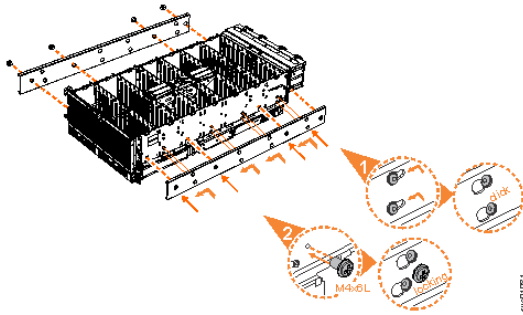

Figure 46. Attaching the inner rail section to the enclosure
5. Install the inner section of the rail onto each side of the expansion enclosure, as shown in Figure 46 on page 85.